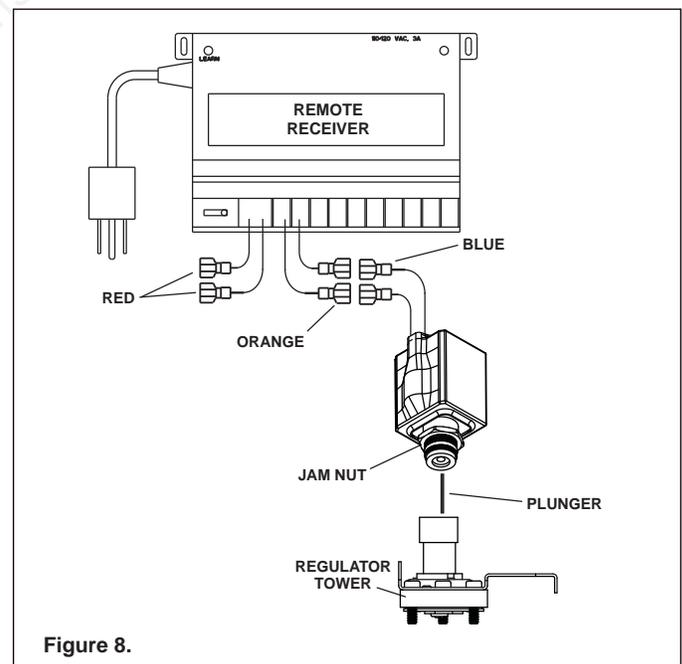

Figure 8.
- Connect blue wires from the solenoid to the orange wires on the remote receiver box. See Figure 8.